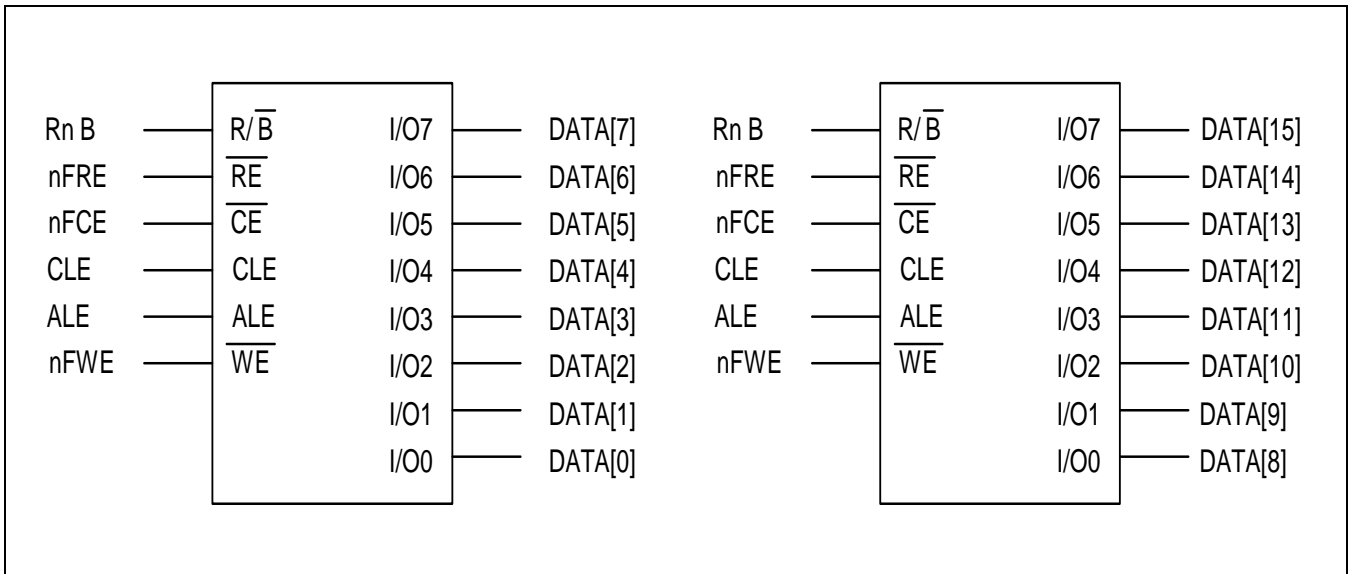

Figure 4-16. Two 8-bit NAND Flash Memory Interface
- KHS038AA1AA-G24 (256 color STN LCD) from KYOCERA Co. (refer to Figure 4-16)